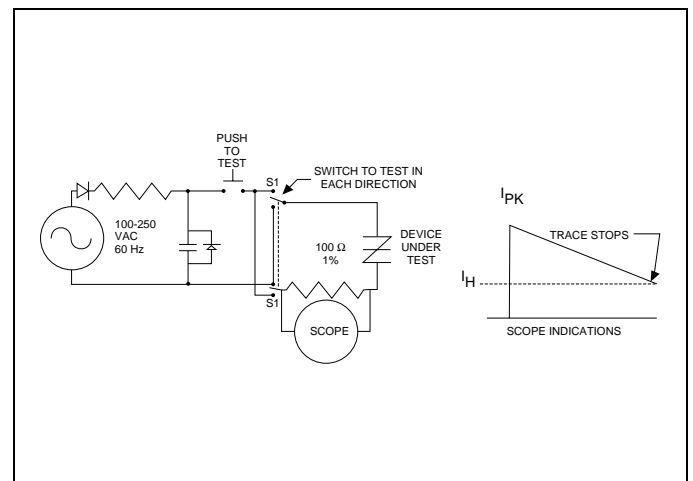

Figure 9.13 Dynamic Holding Current Test Circuit for Sidacs
- See Figure 9.13 for test circuit.